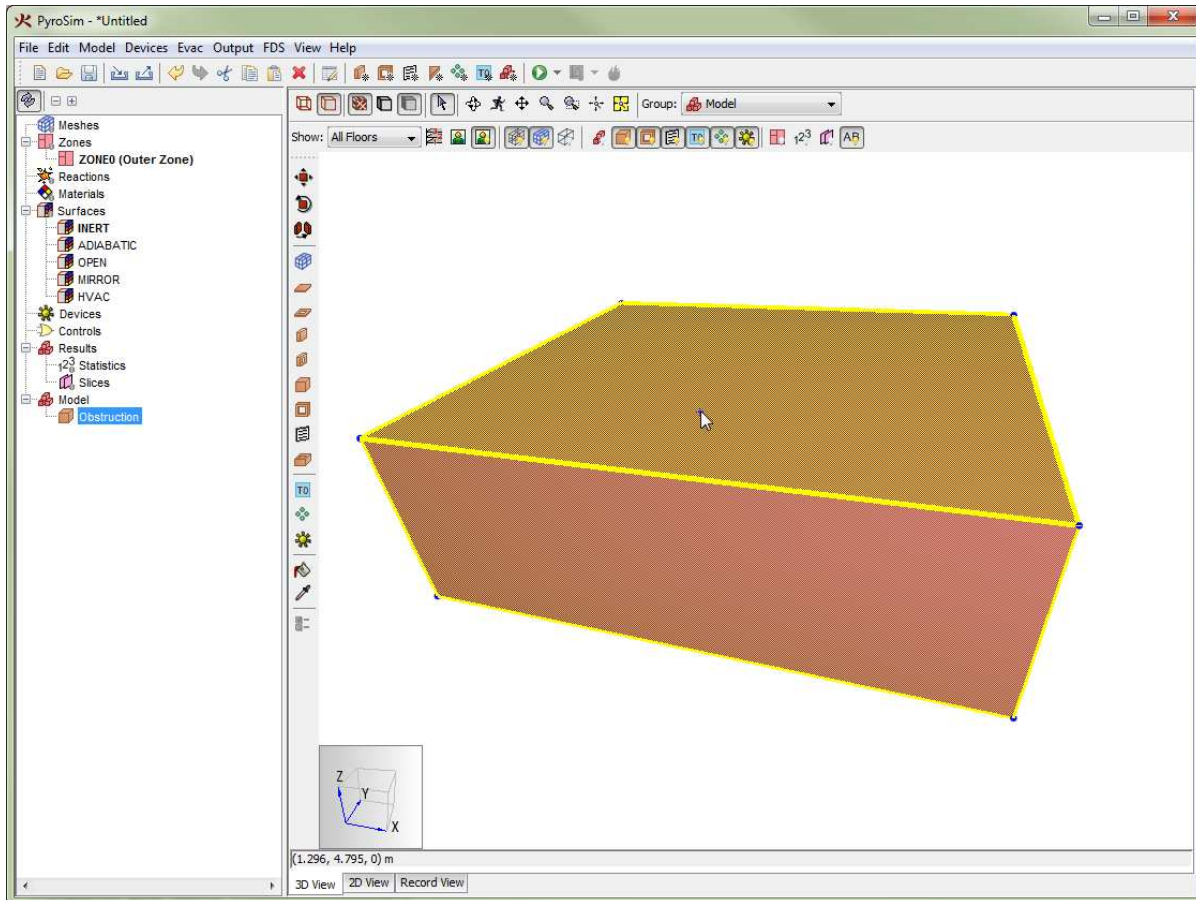

Figure 92. A highlighted face handle
3. Hover the cursor over the desired handle. If the handle is a dot, it will turn yellow. If the handle is a face, the entire face will turn yellow as shown in Figure 92.